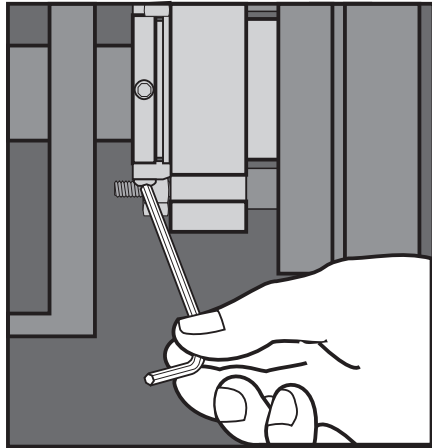

Figure 5
- 2.10 **Remove the setting devices** from the drive collar by loosening the cap screws. See Figure 5. Save the setting devices and fasteners for future use when the pump impeller is reset or when the seal is removed for repairs.